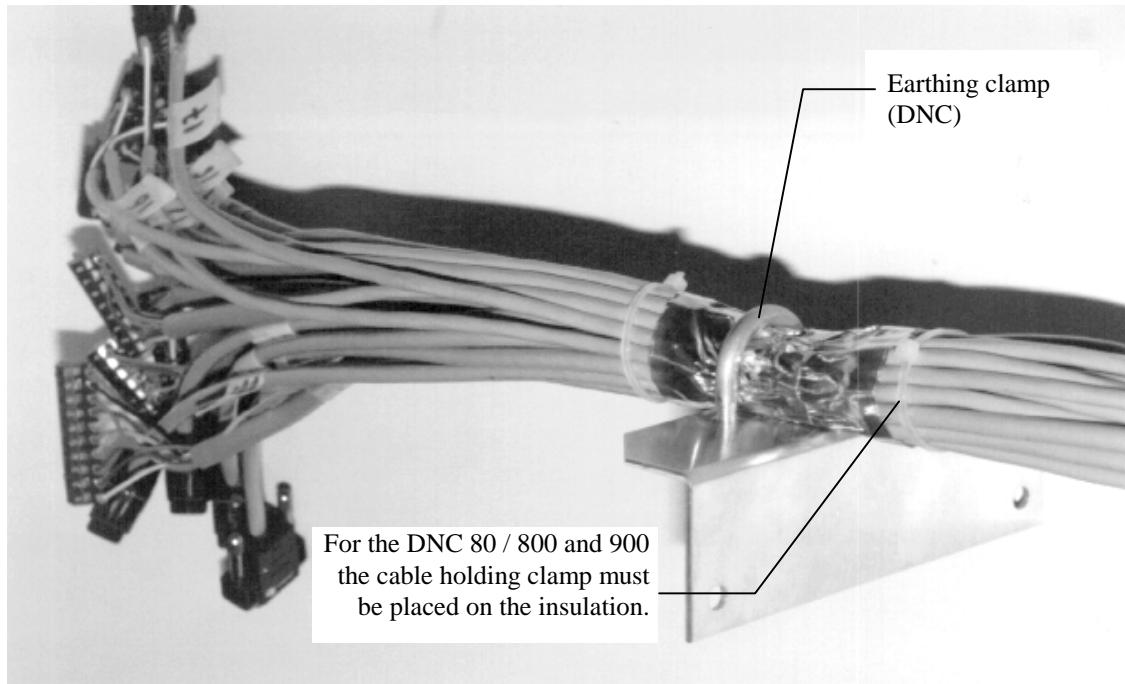

Fig. 5
- Figure 5 shows how all the cables should be clamped on to the DNC support. Obviously this support must not be dismantled and the photograph has been taken uniquely for illustration.